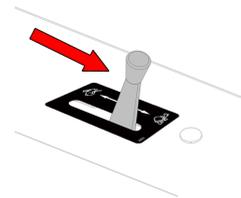

Figure 14 - Throttle Lever
1. Ensure the throttle lever is in the slow (tortoise) position (Figure 14).